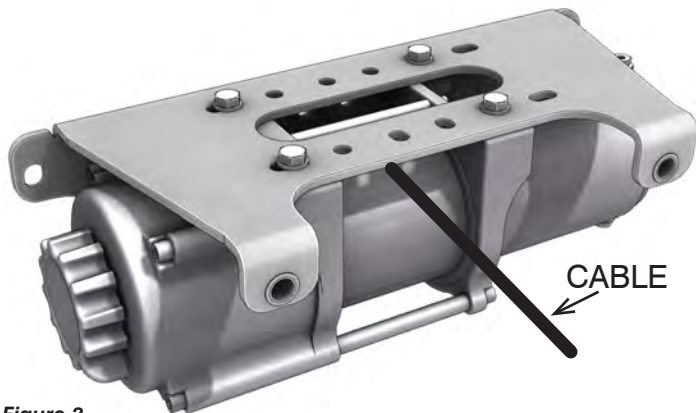

Figure 3.
5. Assemble your winch to the mount plate as shown in **Figure 3 or 4**, using hardware included with your winch. Most winches will be installed in the orientation shown in **Figure 3 (pg2)**, upside down with the clutch end on the passenger side of the machine and the motor to the driver's side once bolted to the machine.